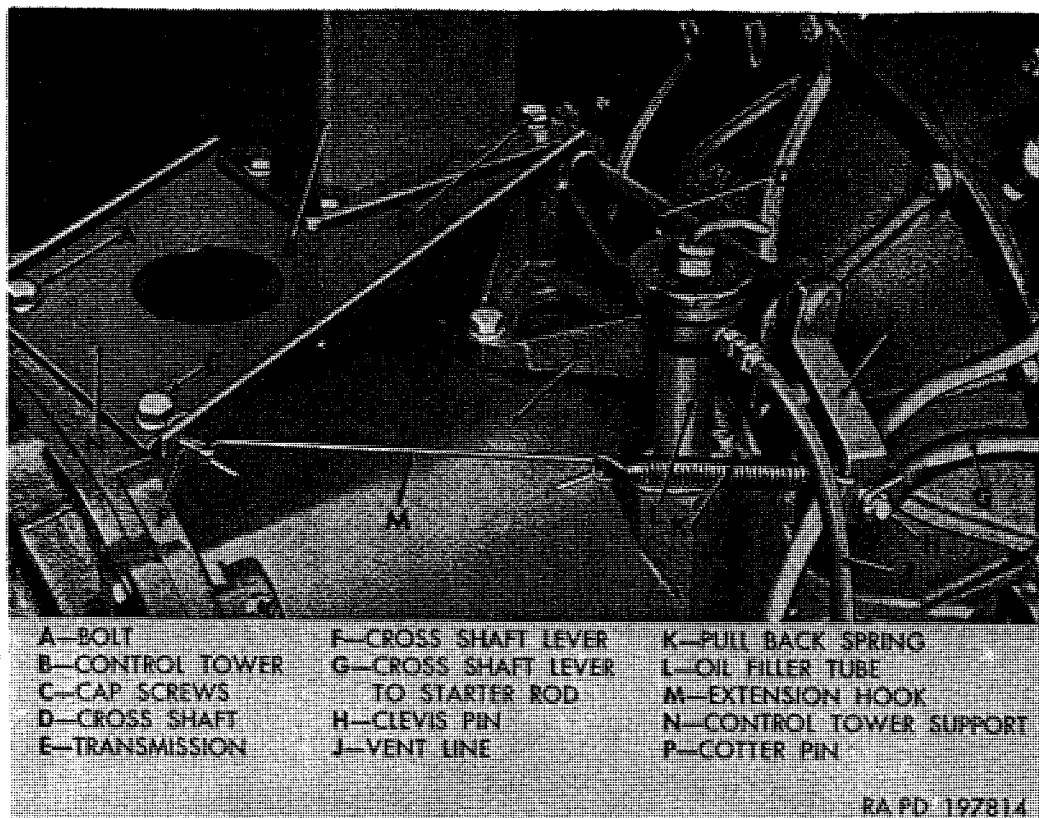

Figure 200. Control tower disconnect points.
(1) Removal.
- (c) Disconnect transmission shift lever trunnion (F) from transmission shift lever (H) by removing safety nut (G) and washer.
- (d) Disconnect reduction unit control rod (L) from reduction unit idler lever (M) by removing cotter pin and clevis pin.
- (e) Disconnect transmission vent line (J, fig. 200) from oil filler tube by unscrewing fitting.
- (f) Unhook cross shaft lever pull back spring from extension hook; then disengage extension hook from cotter pin on control tower support. Remove pull back spring (K, fig. 200) from cross shaft lever (F, fig. 200).
- (g) Remove three cap screws, one bolt, and four lockwashers attaching shift control tower and support to transmission (E, fig. 200); then remove control tower and support from transmission.
- (2) *Installation.*
- (a) Position transmission control tower and support (B and N, fig. 200) on transmission and attach with two $\frac{7}{16}$ -14 x 1 cap screws, one $\frac{3}{8}$ -16 x $4\frac{1}{4}$ cap screw, one $\frac{3}{8}$ -16 x $5\frac{3}{4}$ bolt, two $\frac{7}{16}$ -inch lockwashers, and two $\frac{3}{8}$ -inch lockwashers.
- (b) Engage cross shaft lever pull back spring (K, fig. 200) with cross shaft lever (F, fig. 200). Engage extension hook with cotter pin on control tower support; then stretch spring and engage spring end with end of extension hook (M, fig. 200).
- (c) Attach transmission vent line (J, fig. 200) to oil filler tube (L, fig. 200). Tighten fitting.
- (5) *Raise power plant from rear support.* Using a suitable floor jack, raise transmission just enough to relieve load from rear support cross member. Place blocking under engine to support power plant while removing transmission from engine.
- (6) *Disconnect transfer-to-front-axle propeller shaft.* Remove four bolts and nuts attaching front propeller shaft universal joint to transfer driving flange; then lower rear end of propeller shaft to floor.
- (7) *Remove transmission rear support cross member.* Remove four bolts and locknuts attaching transmission rear support cross member to support brackets; then remove transmission rear support.
- (8) *Disconnect starter control.* Remove cross-shaft-lever-to-starter rod from cross shaft lever by removing cotter pin and clevis pin (H, fig. 200).
- (9) *Drain coolant and disconnect cooler lines.*